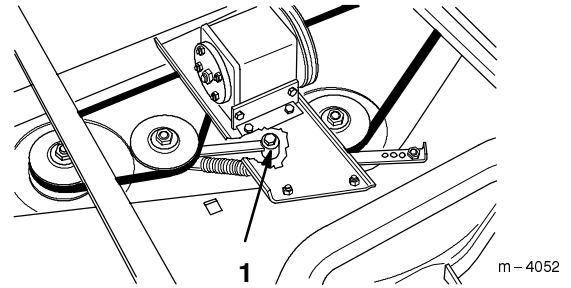

Figure 21
- Oil the mower idler arm pivot every 25 hours with a few drops of SAE 30 oil (Fig. 21).